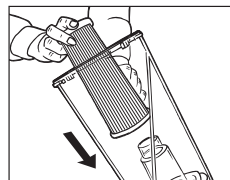

Fig. 6/5
- Align slots on the lid with the tabs on the dirt container (Fig.6/6A). Push the lid down and twist clockwise.